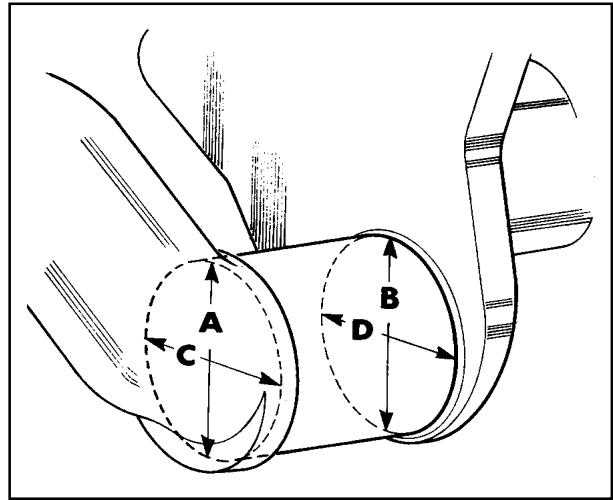

Figure 35
4. Measure the diameter of each journal/crankpin in at least four places to determine out-of-round, taper or wear, Figure 35. Measurement A compared with B indicates vertical taper whilst measurement C compared with D indicates horizontal taper. Measurements A and B compared with C and D indicate journal out-of-round. If the journal exceeds the specified wear limit, refinish the journals to the next undersize bearing, see "Specifications". Always reproduce the original journal side radii and after refinishing chamfer the oil holes.